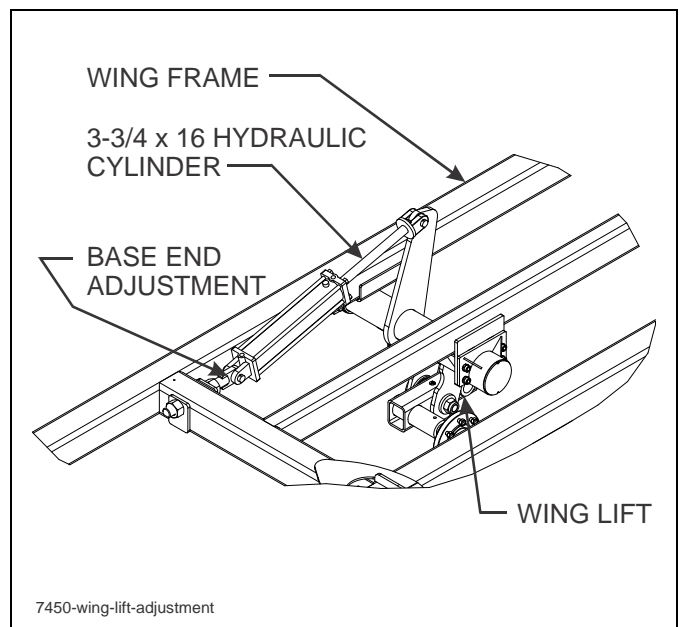

Figure 4-12: Wing Lift Adjustment
- g. Adjusting the anchor at the base end of each wing lift cylinder sets wing frame height (See Figure 4-12.)